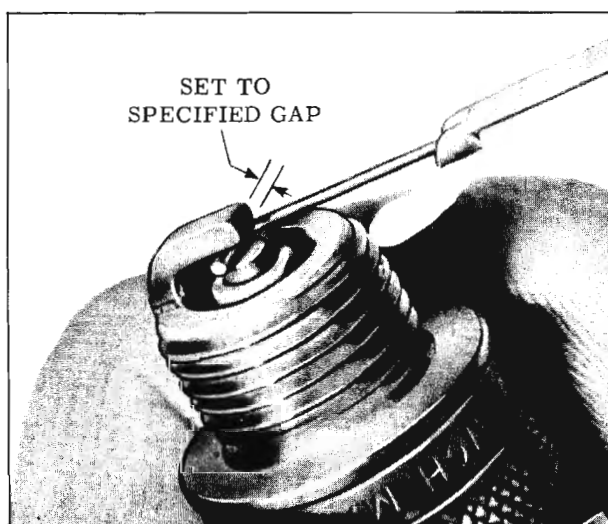

Fig. 14-113 Adjusting Spark Plug Gap
The spark plug gap should not be measured with flat feeler gauge stock but should be measured with a wire gauge as shown in Fig. 14-113.
3. Set the spark plug electrode gap at 0.040" using a wire gauge as shown in Fig. 14-113.